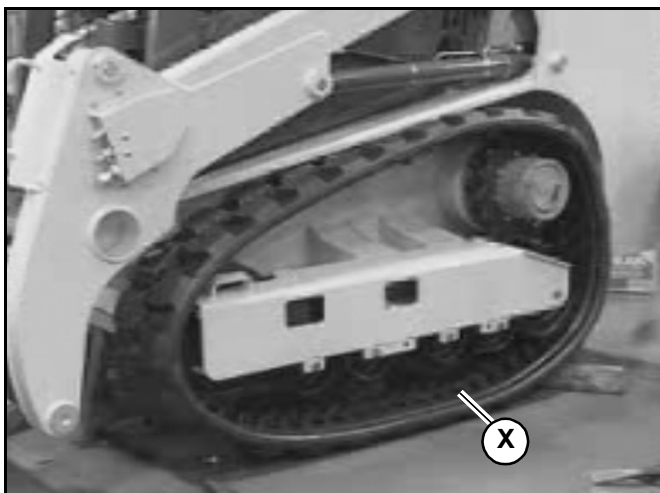

Fig. 107 – Track Installed Before Tensioning
14. The installed track should look similar to Fig. 107.